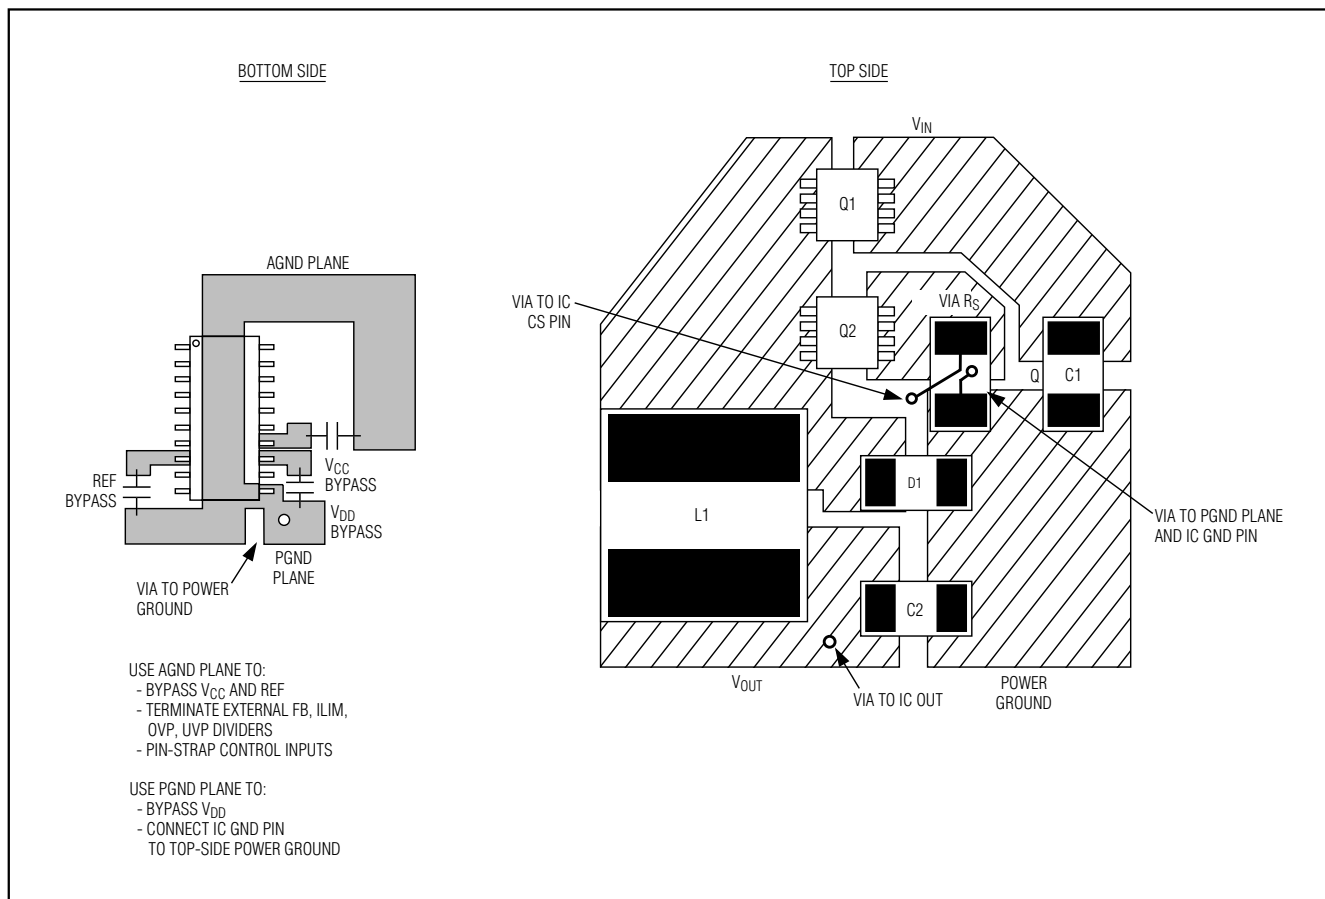

Figure 9. Power-Stage PC Board Layout Example
Careful PC board layout is critical to achieving low switching losses and clean, stable operation. The switching power stage requires particular attention (Figure 9). If possible, mount all of the power components on the top side of the board, with their ground terminals flush against one another. Follow these guidelines for good PC board layout:
4) Make the DC-DC controller ground connections as shown in Figure 9. This diagram can be viewed as having two separate ground planes: power ground, where all the high-power components go; and an analog ground plane for sensitive analog components. The analog ground plane and power ground plane must meet only at a single point directly at the IC.